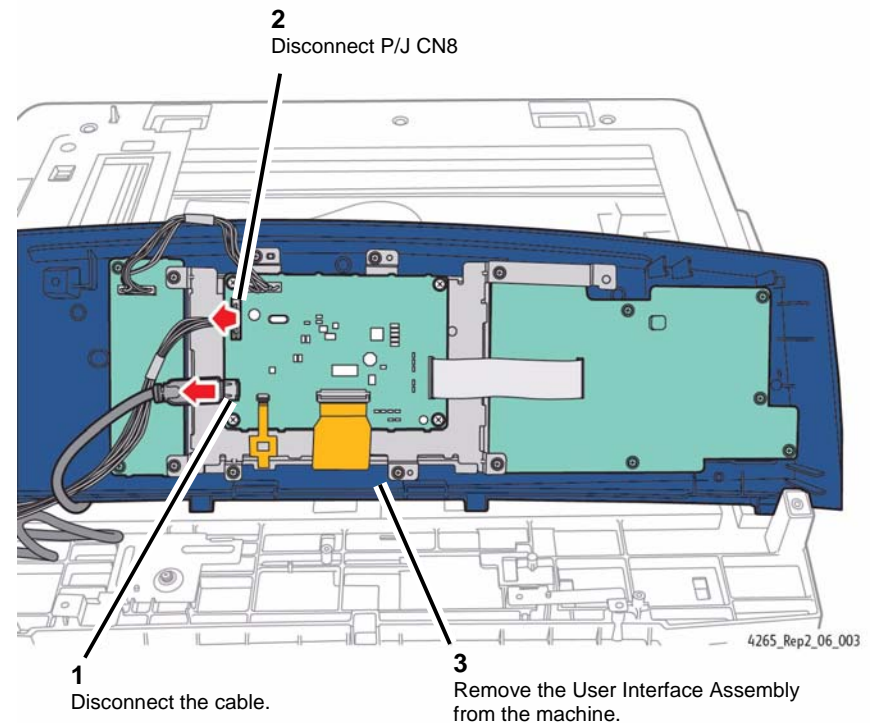

Figure 3 Removing the User Interface Assembly
4. Remove the User Interface Assembly (Figure 3).